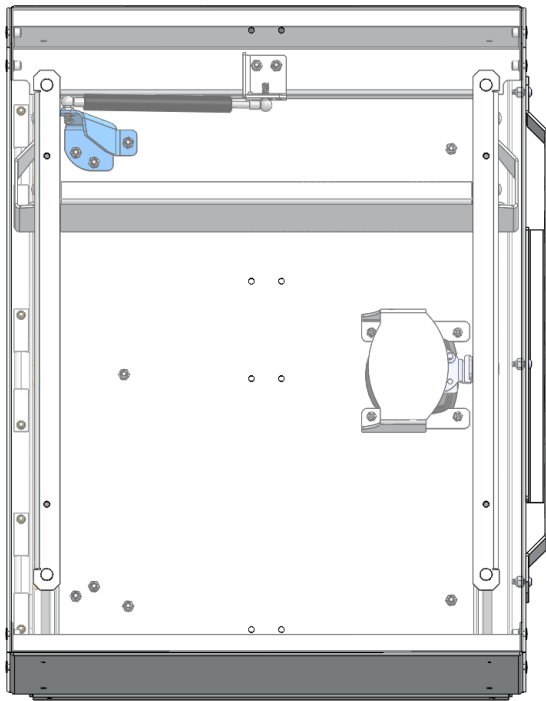

Figure 2
1. Place gas strut mount (door side) on the inside of the door and hold into place as seen in **Figure 2**.